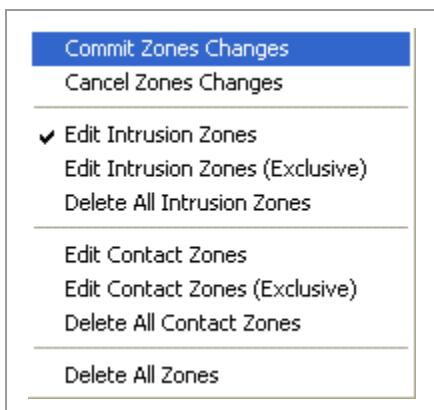

Figure 19 - Edit Menu Commands
After editing one (1) or more zones, the changes may be saved or discarded. This is accomplished using the appropriate **Edit Menu** command, **Commit Zone Changes** as shown in **Figure 19**, or by using the commit button  .